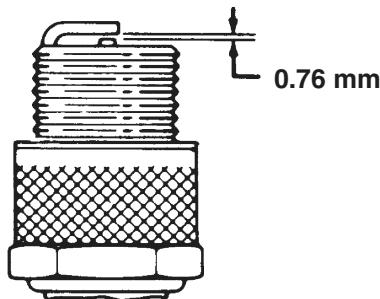

Figure 29
- Set the air gap between the center and side of the electrodes at 0.030 in. (0.76 mm) (Fig. 29). Install the correctly gapped spark plug and tighten the plug to 14 ft.-lb. (20 N•m).